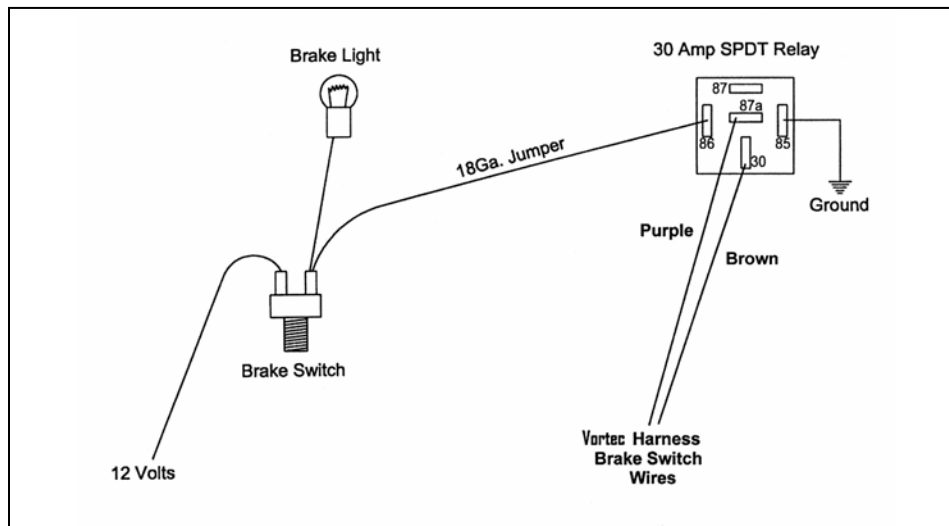

FIGURE 6.3 Brake Switch Relay
- F.** If your vehicle has a pressure type brake switch, you may use a relay as shown in **Figure 6.3**. The relay must be a **SPDT Relay** and wired correctly or it could result in a dangerous situation with the vehicle. The torque **converter may not unlock**.